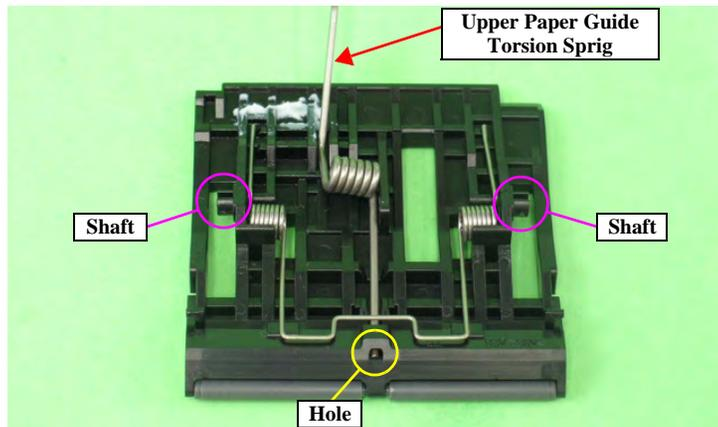

Figure 4-144. Reinstalling the Upper Paper Guide Torsion Spring
- Lift the six Upper Paper Guide Assys from the Main Frame to release the shaft referring to Figure 4-144, and remove the Upper Paper Guide Assys to the rear.